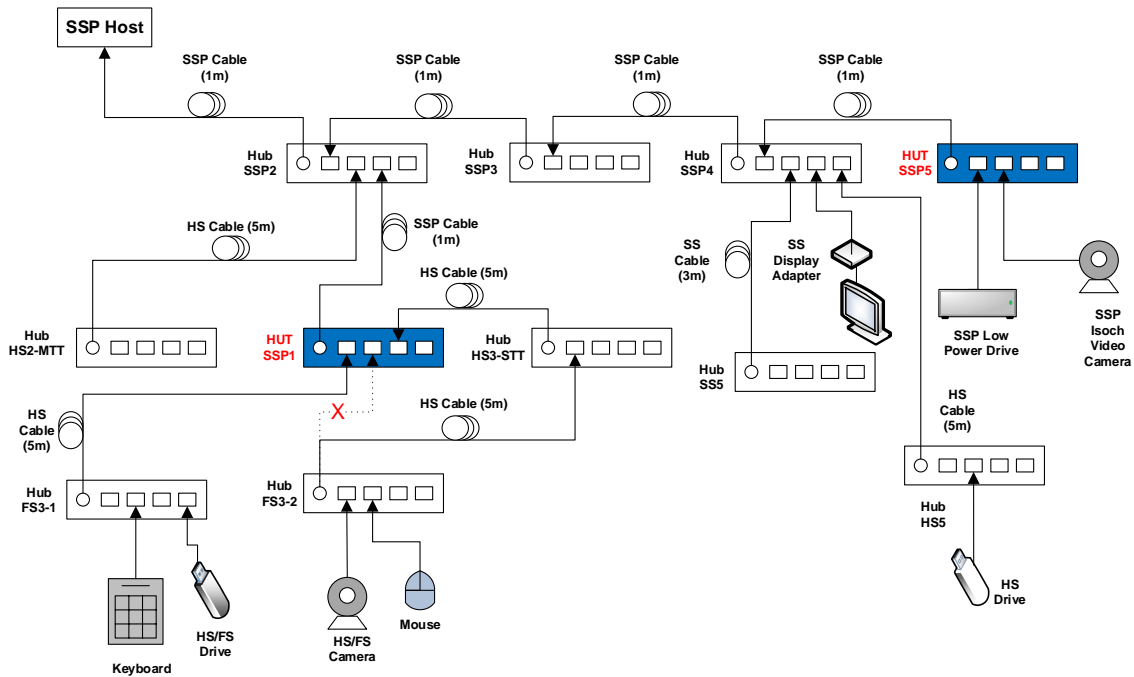
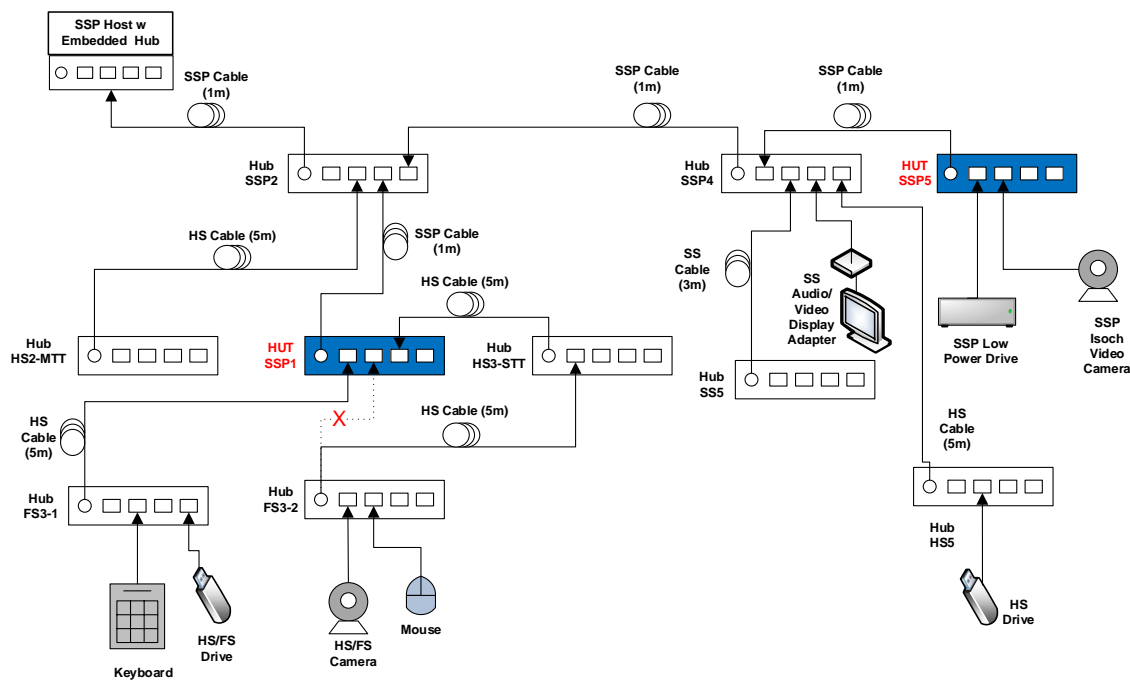

Figure 3-5: Topology Change 1 - Single-TT Hubs Only
Figure 3-6: Topology Change 1 - Single-TT Hubs Only (embedded hub)
- i. Detach Hub FS3-2 from port 2 on the Hub Under Test and attach the Hub FS3-2 to port 1 on Hub HS3-STT. This should set the configuration to what is displayed in Figure 3-5 and Figure 3-6.